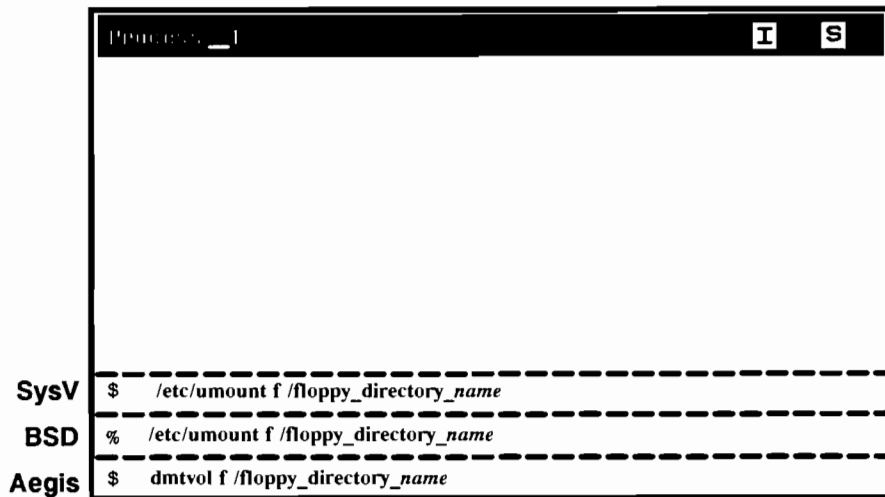

Figure 4-11. Dismounting Diskettes
2. To dismount the diskette, enter the following command as shown in Figure 4-11: